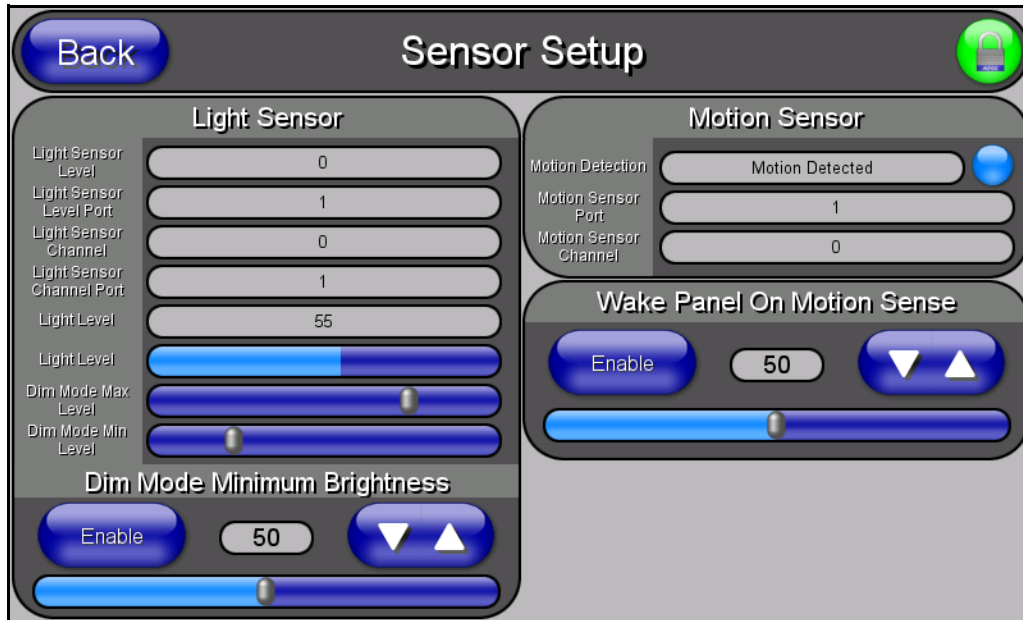

FIG. 88 Sensor Setup page
The Sensor Setup page (FIG. 88) allows you to adjust the Light and Motion Sensor parameters on a Modero touch panel.
3. Open the Sensors Setup page (FIG. 88) from the Protected Setup menu section.